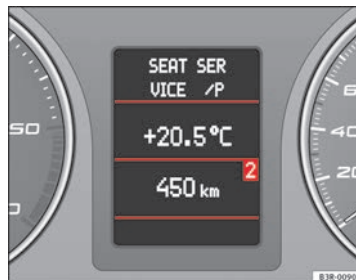

Fig. 65 Driver information system
- Press the **MODE** button **B** repeatedly to switch between modes, which are then displayed in the driver information system ⇒ fig. 65.